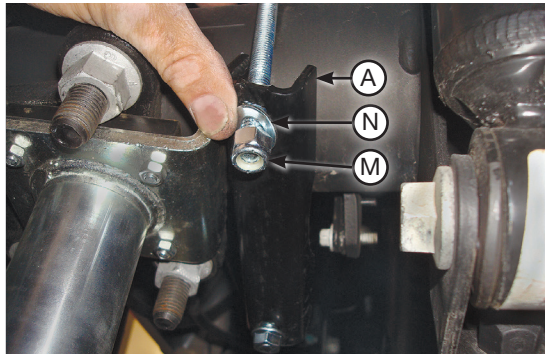

Fig. 18
- Set the lower clamp bars (A) over the carriage bolts located under the axle (Fig. 18). Attach with the 3/8" flat washers (N) and 3/8"-16 nylon lock nuts (M). Evenly torque the lower clamp bar hardware to 16 lb.-ft. (22Nm). Finish tightening the U-bolt hardware previously snugged by torquing to 10 lb.-ft. (14Nm).